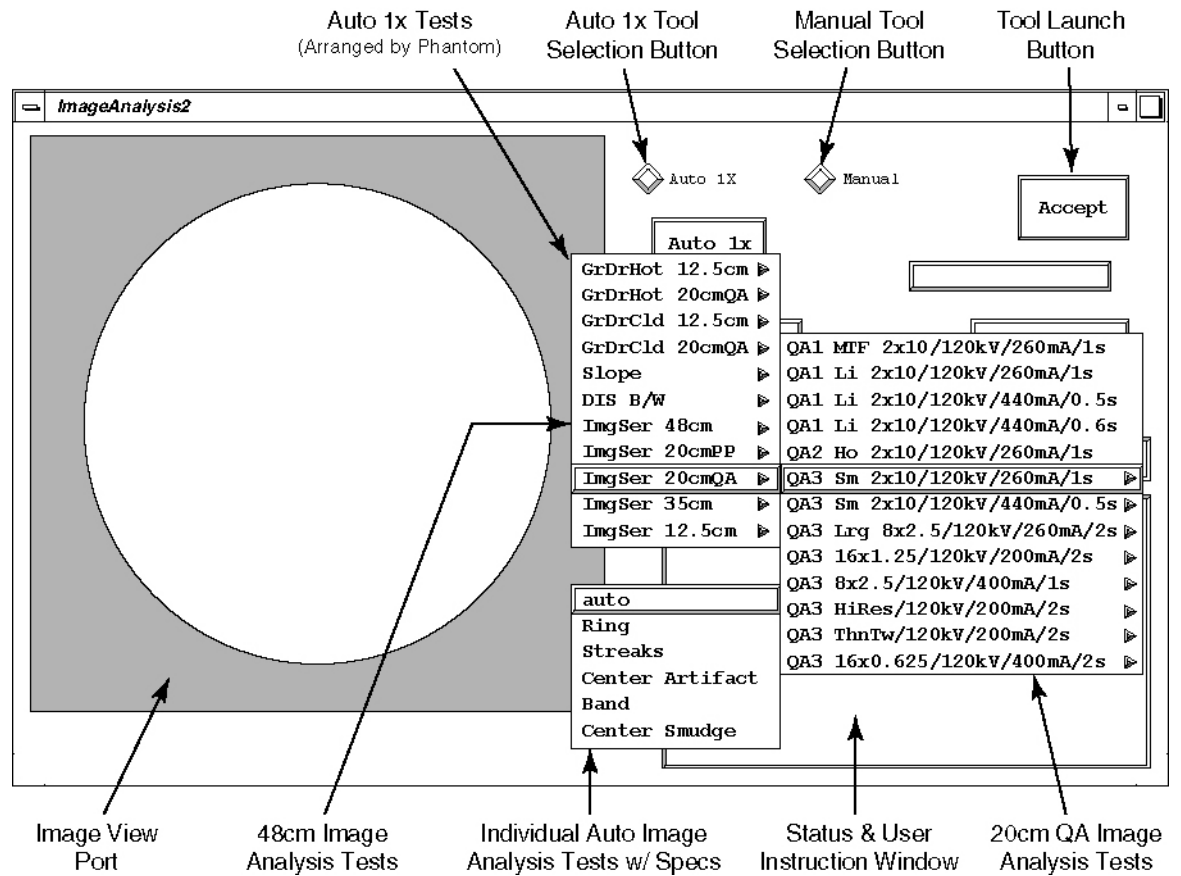

Figure 6-2 Image Analysis Tool User Interface - Auto 1x Test Pull Down Menu
- b.) On the Image Analysis Tool window, click on the AUTO 1X diamond shaped button. (See Figure 6-2, on page 189.)